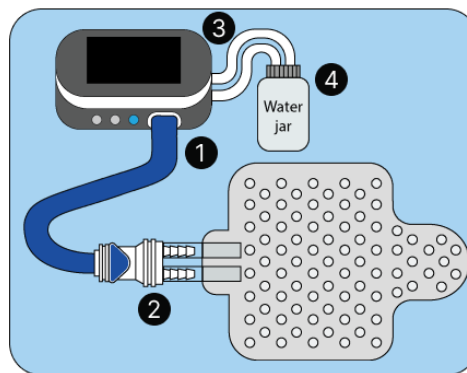

Figure 38: Selecting Filling mode
- Follow the on-screen instructions as shown in Figure 38 until the device shows “Tank level – 100%”.